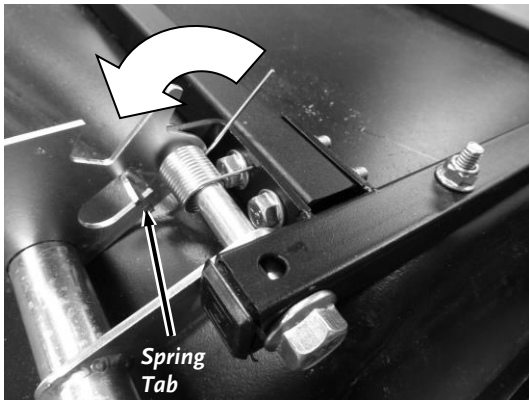

Figure 9
4. Rotate the remaining end of the Spring and secure it under the Spring Tab (**Figure 9**).